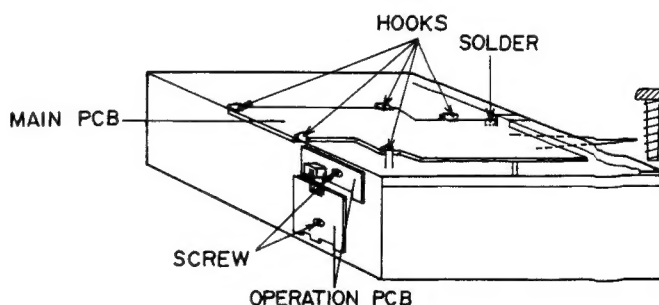

Fig. 4-2
- 1) Remove screw ① and remove solder as shown Fig. 4-2